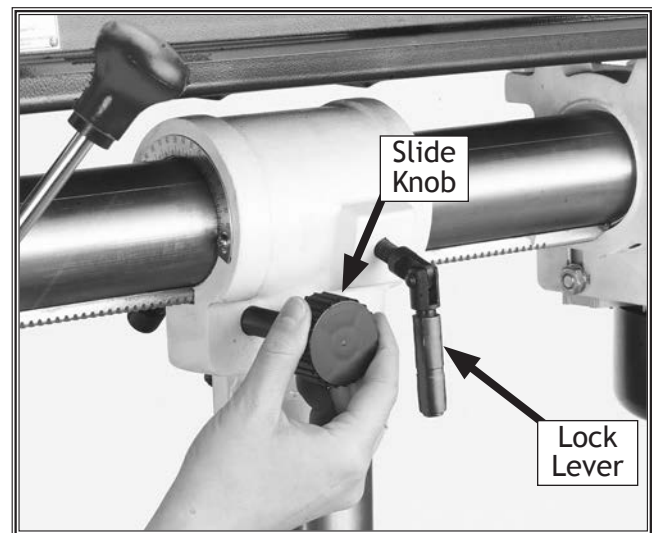

Figure 31. Headstock tilt and slide controls.
1. Loosen the lock lever located on the right side of headstock (see **Figure 31**).
2. Turn the slide knob to move the headstock back and forth to desired position and then tighten the lock lever (see **Figure 31**).
1. Loosen the lock handle on the right side of headstock (see **Figure 31**).
3. While reading the tilt scale, tilt the headstock to your desired angle and tighten lock lever (see **Figure 31**).